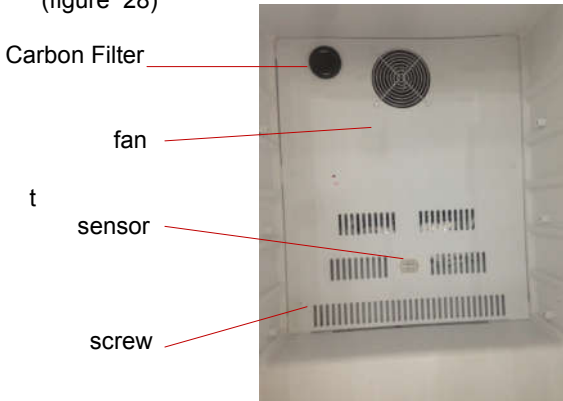

Figure 28
1. Loosen screws. Pull out the rear air duct cover. (figure 28)